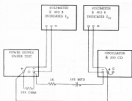

Figure 5-9. Output Impedance. Test Setup.
- Connect test setup shown in Figure 5-9.